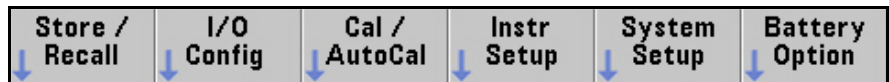

Figure 6-2. Microwave Source Connection to Channel 3
- 5 **Connect the microwave frequency source to Channel 3 on the counter front panel. (See Figure 6-2.)**